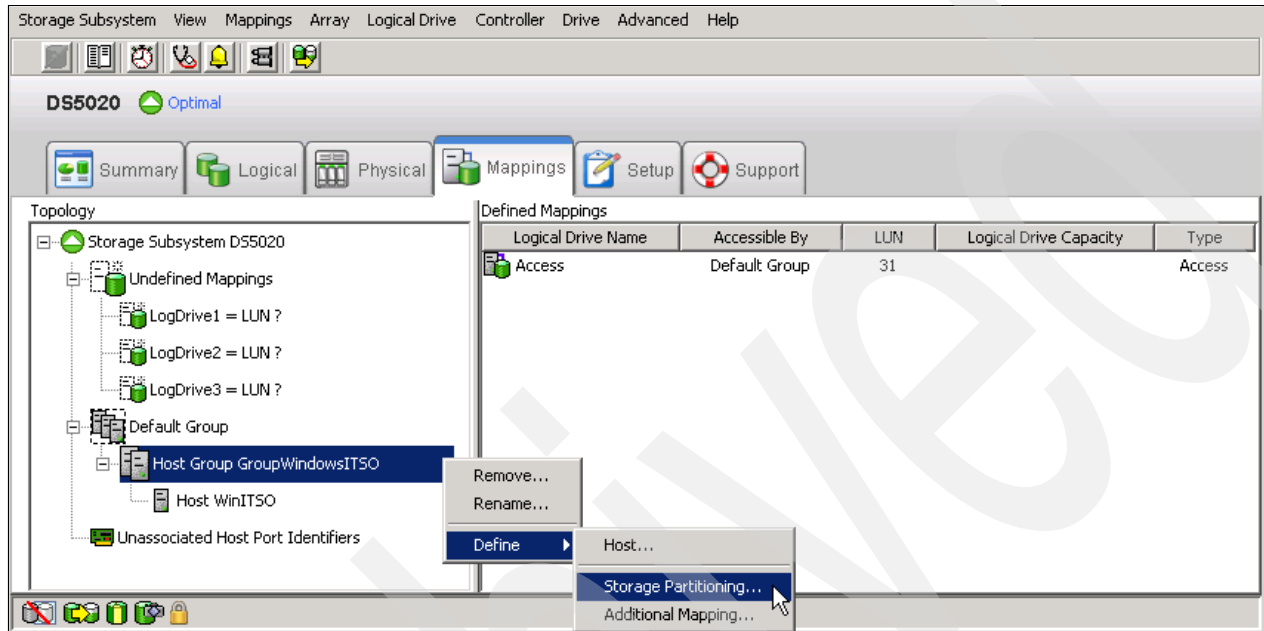

Figure 4-76 Define storage partitioning
1. We start by creating a storage partition by assigning the logical drives to the hosts or host groups. The Storage Partitioning wizard leads you through the process, and you initiate it by right-clicking **Default Group** and selecting **Define** → **Storage Partitioning**. We show an example in Figure 4-76.